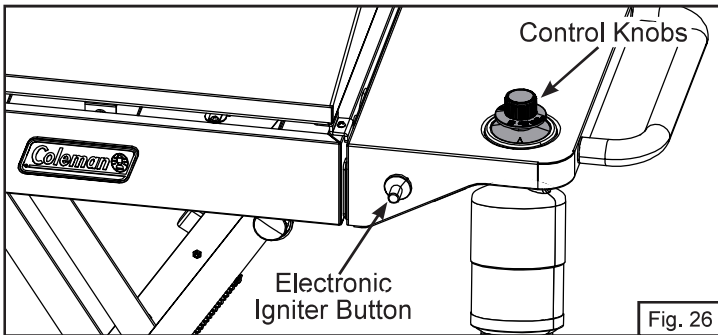

Fig. 26
1. Push and turn control knob 90 degrees counterclockwise to open then push igniter button repeatedly until burner lights (Fig. 26).